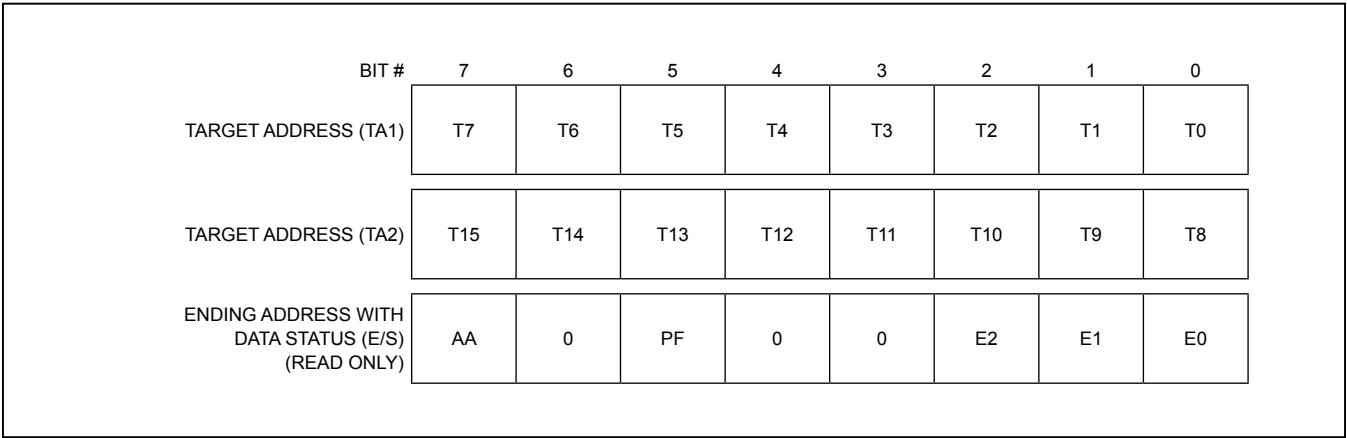

Figure 6. Address Registers
The DS2431 employs three address registers: TA1, TA2, and E/S (Figure 6). These registers are common to many other 1-Wire devices but operate slightly differently with the DS2431. Registers TA1 and TA2 must be loaded with the target address to which the data is written or from which data is read. Register E/S is a read-only transfer-status register used to verify data integrity with write commands. E/S bits E[2:0] are loaded with the incoming T[2:0] on a Write Scratchpad command and increment on each subsequent data byte. This is, in effect, a byte-ending offset counter within the 8-byte scratchpad. Bit 5 of the E/S register, called PF, is a logic 1 if the data in the scratchpad is not valid due to a loss of power or if the master sends fewer bytes than needed to reach the end of the scratchpad. For a valid write to the scratchpad, T[2:0] must be 0 and the master must have sent 8 data bytes. Bits 3, 4, and 6 have no function; they always read 0. The highest valued bit of the E/S register, called authorization accepted (AA), acts as a flag to indicate that the data stored in the scratchpad has already been copied to the target memory address. Writing data to the scratchpad clears this flag.